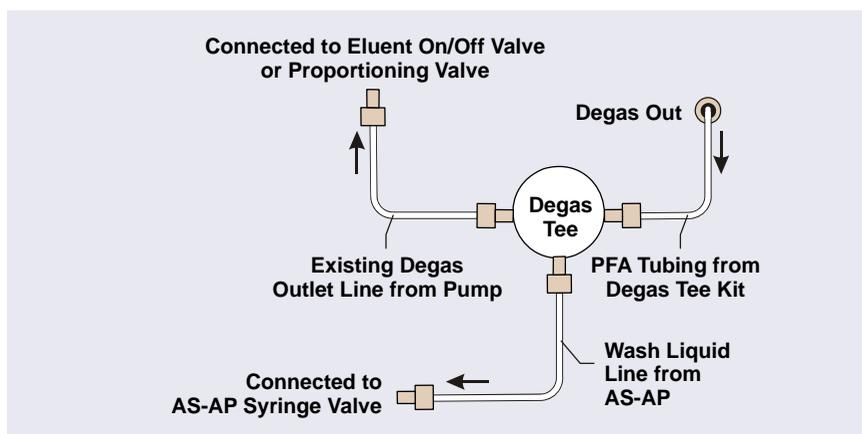

Figure B-18. Connections for Sharing a Degas Channel Using a Tee
2. Connect the short piece of PFA tubing with degas tee to the degas channel outlet port (see Figure B-18).